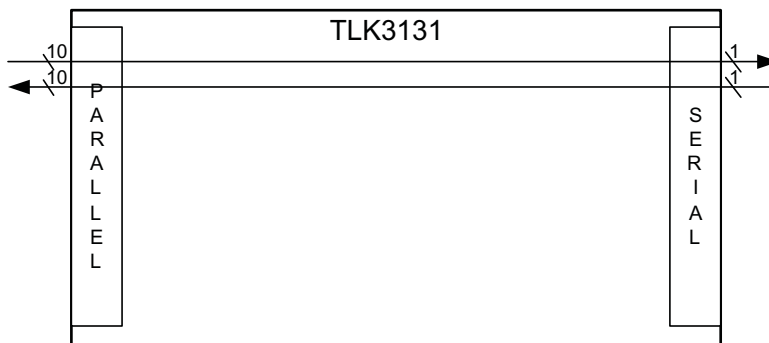

Figure 2-1. Single 10-Bit SERDES Application
Figure 2-1 shows the TLK3131 in a single channel SERDES Application. The 1000Base-X PCS layer can be enabled or disabled. Note that the 8B/10B encoder/decoder functions can either be turned on or turned off. When turned off, either 5 or 10 bits (DDR/SDR) of data is accepted from and presented to the parallel side. When the 8B/10B encoder/decoder functions are enabled, 1 bit of control and 8 bits of data are accepted from and presented to the parallel side using the standardized (R)GMII control characters.